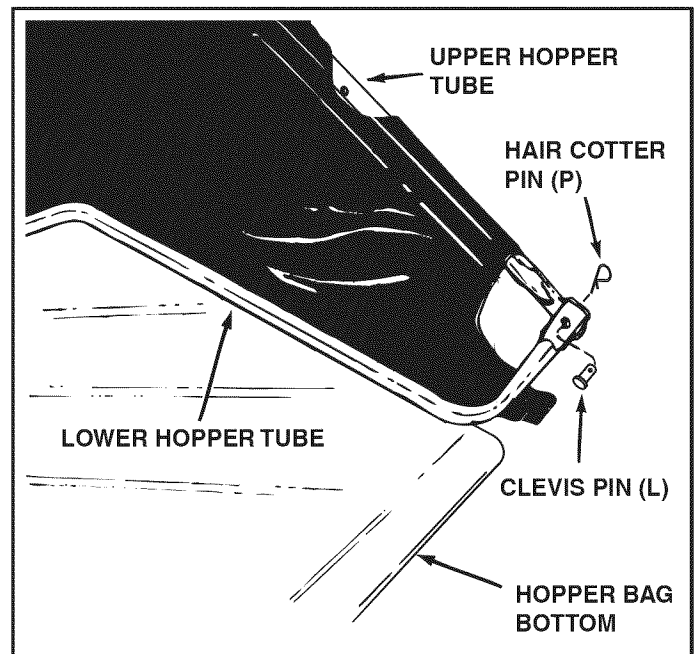

FIGURE 9
- Place the assembled lower hopper tubes into the bottom of the hopper bag and then slide the tubes to the back of the bag. See figure 9.
- Attach the ends of the lower hopper tubes to the **inside** of the upper hopper tubes using two clevis pins (L) inserted from the inside, and two hair cotter pins (P). See figure 9.